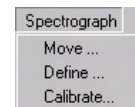
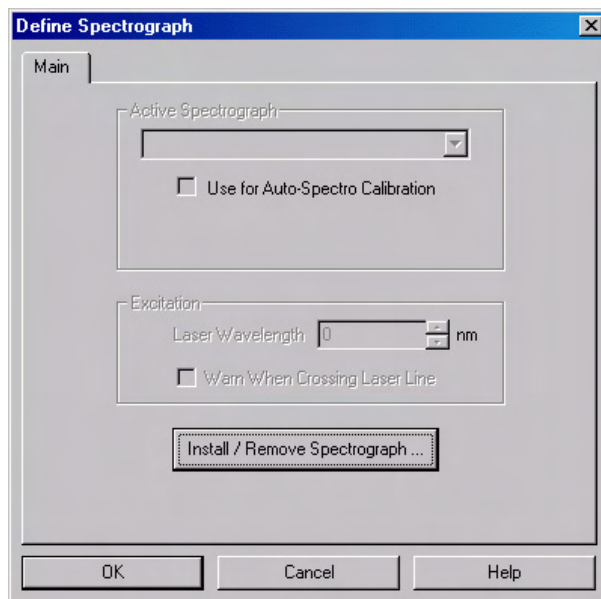

Figure 26. Spectrograph menu
Figure 27. Define Spectrograph dialog box
4. Select **Define** on the Spectrograph menu (Figure 26). This will open the Define Spectrograph dialog box (Figure 27).